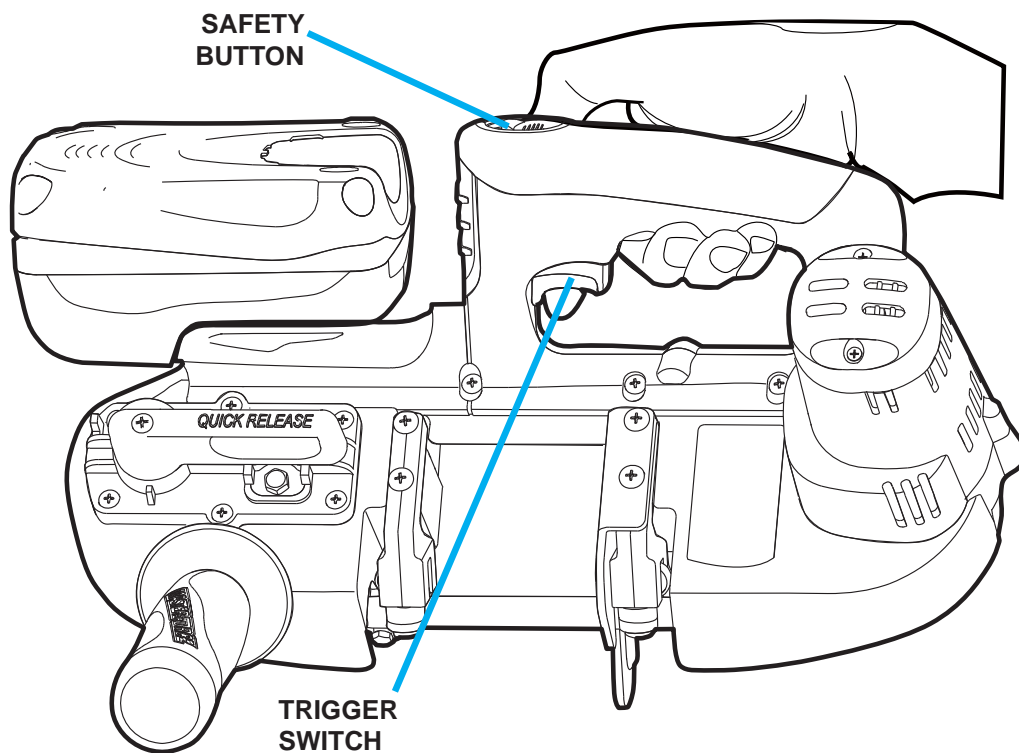

FIG 03
3. **HANDLE** the machine by hand firmly, as figure 03. **ENSURE** that the user's body is positioned in such a safe and balanced manner, not to lose control of the operation or that it is an unstable and / or insecure position;
To start the running of Band Saw, PRESS the Safety Button, and after press the Trigger Switch. To turn off, RELEASE the Trigger Switch (figure 03), after RELEASE the Safety Button.